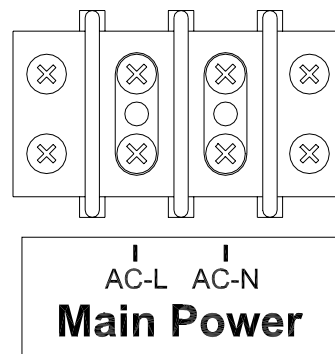

Figure 9 Power Connections
3. Connect the AC line wire and AC neutral wire to the **Main Power** terminal block on the junction chassis according to figure 9.